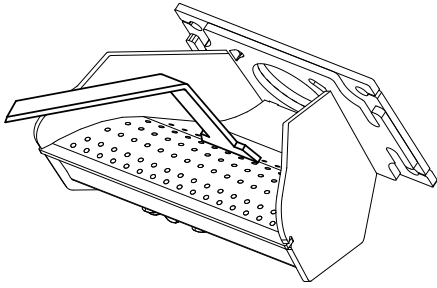

Figure 32
1. Scrape the top holed surface and sides of the burn pot. (Figure 32) It is not necessary to completely remove all material from the burn pot. The excess will be pushed out during the next use.